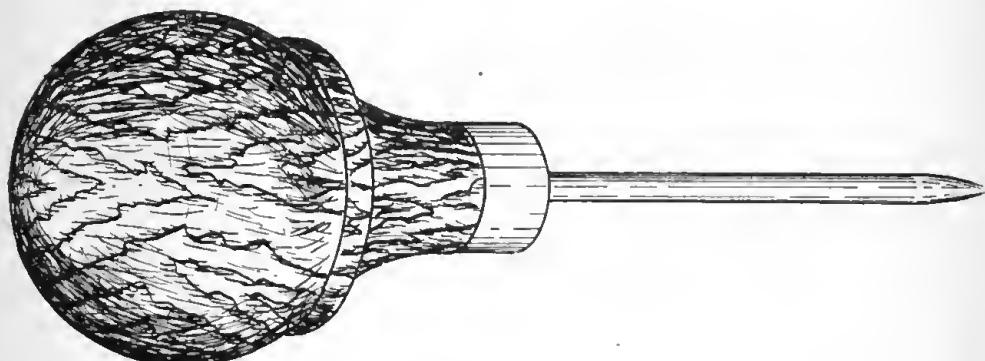

Figure 174. Awl.
(2) The holes in the de-icer boot must be located accurately if the boot is to fit properly. One good method of locating the holes properly is to hold the de-icer boot and fairing strip together and punch the holes directly through the holes in the fairing strip.
(3) The leather punch is made to punch holes in leather, rubber, or cloth. Under no circumstances should an attempt be made to cut holes in metal with it.
h. Awl. An awl is shown in figure 174. This tool is used to line up the holes in the boot with the holes in the fairing strip when attaching a de-icer boot.